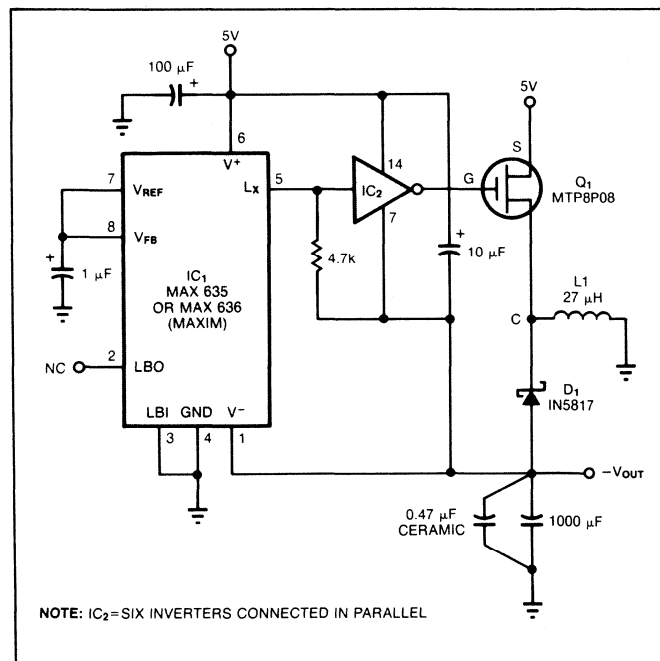
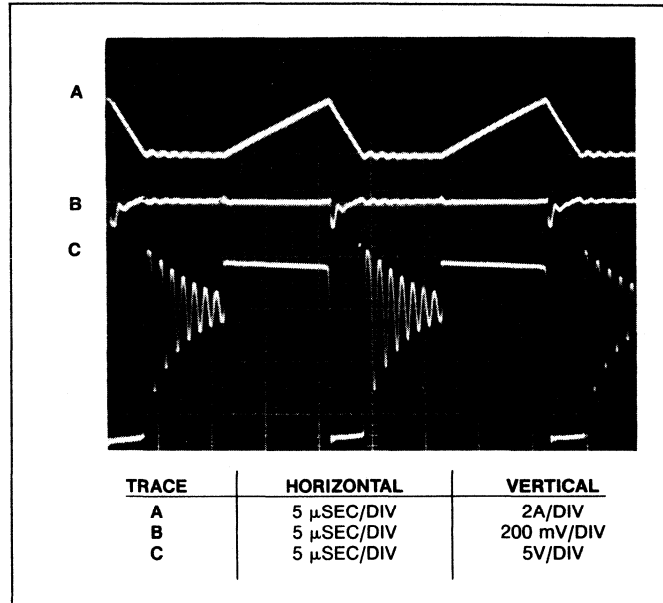

Fig 1—This negative regulator supplies -5V when using a MAX635 or -12V when using a MAX636.
Fig 2—These Fig 1 waveforms show inductor current (trace A), output voltage (trace B), and flyback voltage across the inductor (trace C).
Most high-resolution converters, such as 16-bit DACs and ADCs, guarantee linearity consistent with resolution, but rarely do they guarantee absolute accuracy, which includes gain error, to that level. Because the gain accuracy depends primarily on the accuracy of the voltage reference (whether internal or external), the temperature coefficient of the reference determines the useful temperature range for converter accuracy (Fig 1). Applications where absolute accuracy is critical include weighing scales, data-acquisition measurement systems, automatic test equipment (ATE), and laboratory instruments (such as DVMs and programmable voltage standards).
**Fig 1**—Increasing the resolution of an A/D or D/A converter decreases the temperature range over which it delivers absolute accuracy comparable to its resolution.
Most voltage references on the market produce a single-ended output between  $V_{\text{OUT}}$  and GND, as in the AD2700, REF01, AD580, AD581, and AD584. In these types of devices, I-R voltage drops can cause errors that can spoil the accuracy of the output voltage. The reason is that the load current must pass through the  $V_{\text{OUT}}$  pin and the quiescent supply current must pass through the GND pin (Fig 2). If the output happens to be sinking current—for example, if the load is connected between  $V_{\text{OUT}}$  and  $V^+$  as in Fig 3—then the load current also returns through the GND pin. In most cases, however, the load is connected between  $V_{\text{OUT}}$  and GND; the load current flows into the reference from  $V^+$  and out to the load through the  $V_{\text{OUT}}$  pin. In these cases, the I-R drop on GND won't disturb the output voltage, but the I-R drop on the  $V_{\text{OUT}}$  pin will always remain.
You can minimize single-ended output errors by using a device whose package incorporates internal Kelvin connections (that is, separate force and sense lines) to connect the die to the package pins (Fig 2). Running both force and sense bond wires internally from the chip to the output pin places the "force" bonding wire's resistance inside the output amplifier's feedback loop. This technique in effect eliminates connection resistance except for that of the pin itself and
For example, the AD2710LD has an initial accuracy of  $10.000V \pm 1 \text{ mV}$  max. The device is enclosed in a 14-lead ceramic sidebraced DIP that can have a pin resistance of  $0.05\Omega$  (Fig 2). If your circuit draws the full output current of 10 mA, the resulting voltage drop in series with the load will be 0.5 mV—half the initial accuracy spec. This drop has the effect of lowering the output voltage to 9.9995V (assuming that the factory set it to exactly 10.0000V with no load).
**Fig 2**—When this reference supplies current to a load, voltage drops inside the package are inside the feedback loop and have little effect on accuracy. The voltage drop across the package's output pin can be significant, however.
If you want to construct a reference similar to the AD2700 (Fig 2), you can do so with a 1N829 5-ppm/ $^{\circ}$ C zener diode and an op amp, but again don't forget the task's nontrivial nature. First of all, the diode's several-dollar price tag is a significant expense. And, in discrete form, the best temperature-compensated diodes have TC specs higher than the AD2700 spec. Assuming you can accept 5 ppm/ $^{\circ}$ C, however, you'll need a low-
Using a 5V supply, the simple circuit of Fig 1 generates a regulated, negative-voltage power source capable of delivering several hundred milliamperes. The circuit produces a -5 or -12V regulated output depending on whether IC1 is a MAX635 or a MAX636. The circuit's output power is approximately 2W.
During operation, the inductor current (trace A in Fig 2) rises to a peak of 2A, which is much higher than the output current and typical of flyback-converter circuits. The inductor must handle these current peaks without saturating. Output ripple and noise are about 100 mV p-p (trace B). Trace C (node C in Fig 1) reveals that the inductor voltage begins near 5V when Q1 is on and "flies back" to -VOUT when Q1 turns off. Stray
The monolithic regulator chip in Fig 1, combined with an external pnp transistor, forms a very-low-dropout regulator. The composite regulator can supply several hundred milliamps at 5V from an input as low as 5.3V. Such low-dropout performance suits battery-powered applications, because it extends the useful life of batteries having sloping discharge curves, such as sealed lead-acid and lithium batteries.
Fig 1—A monolithic regulator chip driving a dummy load sets the base current of an external, series-pass pnp transistor; the result is a very-low-dropout regulator for batteries whose output voltage droops under load.
You can substitute a 2N2945 for the 2N2907 shown in Fig 1. With this substitution, the circuit will supply a 5V, 100-mA max output from a 5.1V input. **EDN**